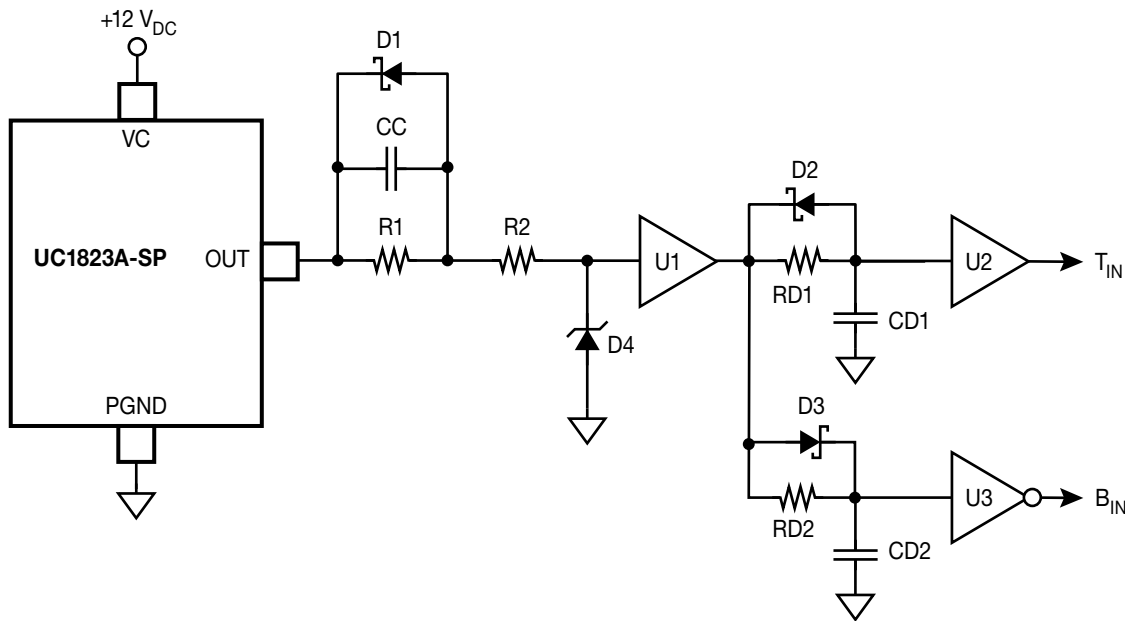
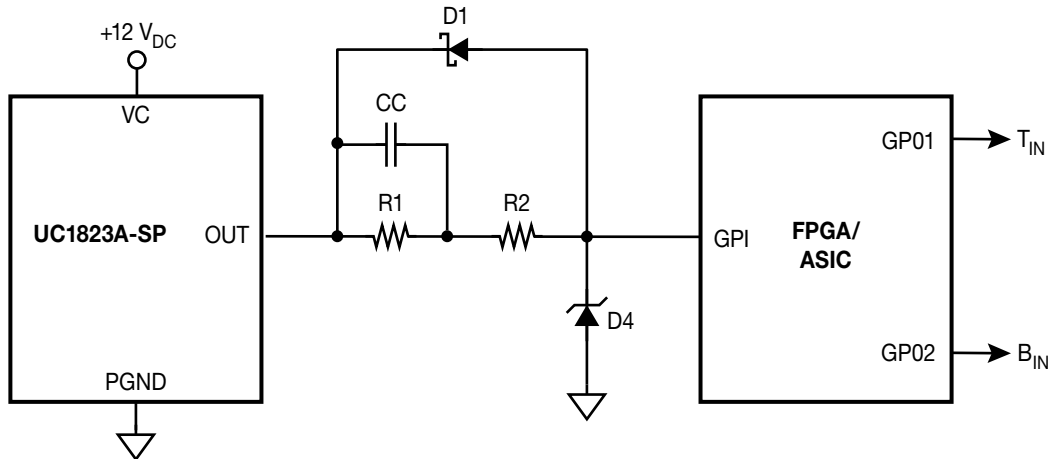
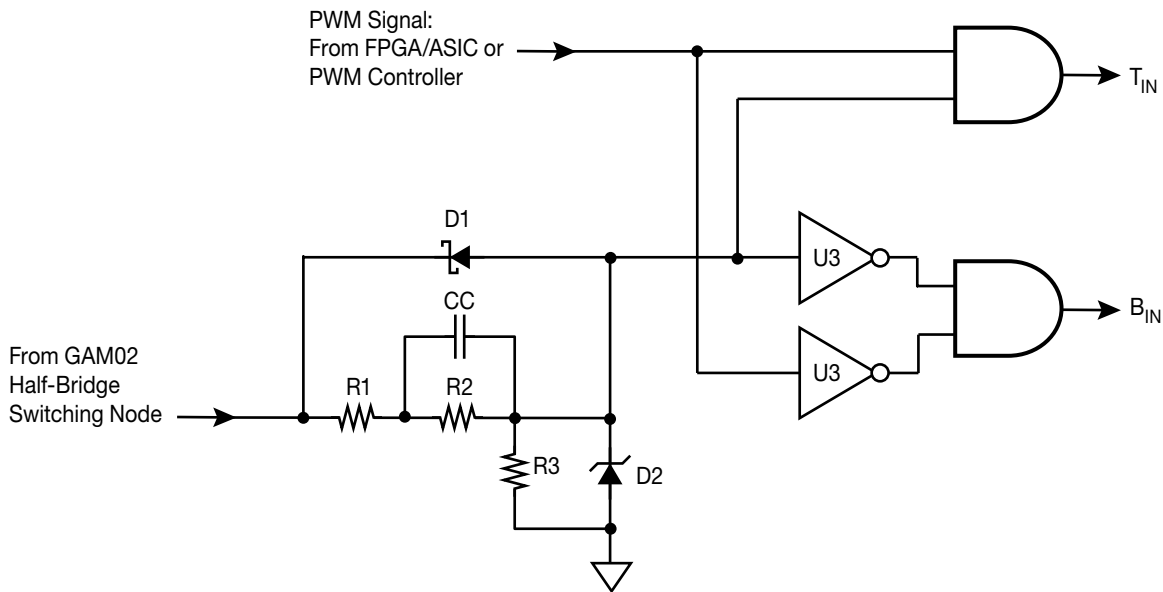

Figure 14. Zener Diode Logic Input Voltage Clamp Circuit and Dead Time Delay Circuit
Figure 15. Zener Diode Logic Input Voltage Clamp Circuit with ASIC/FPGA Two-Phase Clock (With Dead Time) Generator
Figure 16. Adaptive Dead Time Control for Cross-Conduction/Shoot-Through Avoidance
A Zener diode may be used to clamp the B_{IN} and T_{IN} logic inputs of the FBS-GAM02-P-C50 in order to interface the module to a high output voltage level PWM controller, as shown in Figure 14. The output of the UC1823A is a totem-pole configuration, and the output switches between $0 V_{DC}$ and $12 V_{DC}$ as logic 0 and logic 1, respectively. The transition times between logic states for a 1000 pF load are typically 20 ns, but much faster with lighter loads.
The same Zener diode clamping circuit as shown in Figure 14 may be used to clamp the output of the UC1823A to a lower voltage level in order to present it to an ASIC/FPGA in order to generate the requisite two-phase clock signals for the B_{IN} and T_{IN} logic inputs of the FBS-GAM02-P-C50. A typical circuit for this circuit implementation is shown in Figure 15:
In the circuit of Figure 15 all the high-speed and high accuracy analog functions associated with the PWM controller are performed off-chip from the FPGA/ASIC. The programmable logic of the FPGA/ASIC and the associated firmware code is responsible for generating the two-phase clock with dead times required by the B_{IN} and T_{IN} inputs of the FBS-GAM02-P-C50.
In circuits shown in both Figure 14 and 15 the dead times required by the FBS-GAM02-P-C50 to avoid cross-conduction/shoot-through are generated in a “brute force” manner either with analog components (Figure 14) or with programmable logic and firmware in an FPGA/ASIC (Figure 15). There is another way to obtain the optimum dead times for the FBS-GAM02-P-C50 device – adaptive dead time control, as shown in Figure 16.
Adaptive dead time control utilizes the state of the switching node (SN) of the GAM02 in order to allow the B_{IN} or T_{IN} signals (in this case the B_{IN} signal is the simple logical inverse of the T_{IN} signal) to be applied to the B_{IN} or T_{IN} logic inputs of the FBS-GAM02-P-C50 in order to avoid dynamic cross-conduction/shoot-through in the low- and high-side output power HEMTs. If the switching node of the FBS-GAM02-P-C50 is “low” (i.e. at PGND) then the low-side switch is turned ON, or in the process of turning OFF, and the high-side switch must not be turned ON (i.e. a logic 1 applied to the T_{IN} input). Similarly, if the switching node is “high” (i.e. at V_{DD}), then the high side switch is turned ON, or in the process of turning OFF, and the low-side switch must not be turned ON (i.e. a logic 1 applied to the B_{IN} input). However, if the B_{IN} input is logic 0 and the switching node is “high” (i.e. the high-side catch Schottky conducting load current) then the T_{IN} input may be set to logic 1 to turn on the high-side driver. This same situation applies to the high-side driver: If the T_{IN} input is logic 0 and the switching node is “low” (i.e. the low-side catch Schottky is conducting load current) then the B_{IN} input may be set to logic 1 to turn on the low-side driver. The circuit shown in Figure 16 relies on a similar voltage clamping scheme for the switching node as was utilized in Figures 14 and 15, with the exception that the power supply V_{DD} , and subsequent range of the switching node, could be much higher than $12 V_{DC}$ – in fact up to $50 V_{DC}$ for the FBS-GAM02-P-C50. So greater care must be exercised in the selection of the clamping components to avoid excessive power dissipation in them, and the associated decrease in circuit efficiency. It is strongly recommended to simulate the circuit once the components have been selected to ensure that the proper clamping level is achieved and that the power dissipation of the clamp circuit is kept to a reasonable level so as not to affect overall circuit operating efficiency.